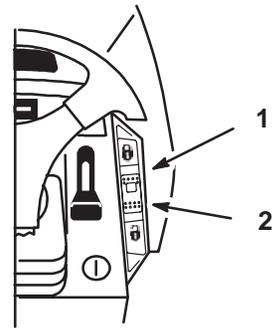

Figure 15
A three position switch, located on the dash (Fig.15), with the functions of: Lock–Set (spring loaded), On and Unlock–Off controls the engagement. Cruise control maintains the traction control position without foot pressure. Cruise control is intended for operation in the forward direction only. Do not use cruise control in reverse.
1. Begin driving tractor: Refer to Driving Forward or Backward, Page 18. While holding your foot steady on the traction control, push the cruise control switch (Fig. 15) to the “Lock–Set” position.
1. While holding your foot steady on the traction control, move the cruise control switch (Fig. 15) to the “Unlock–Off” position.